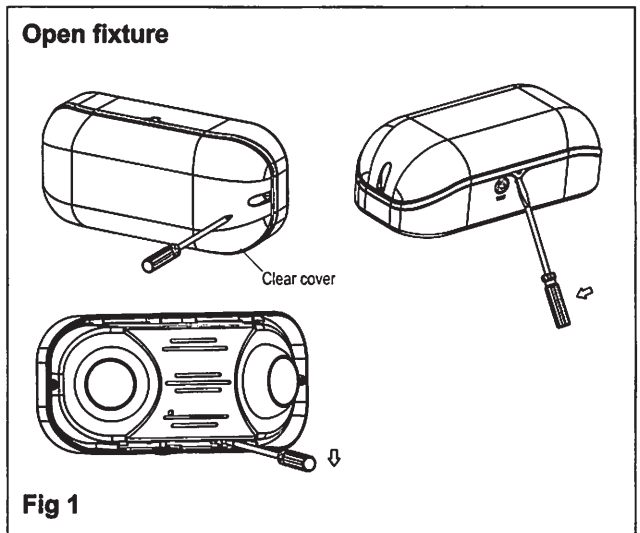

Fig 1
1. Use Philip screwdriver loose 2 screws(see Fig 1).